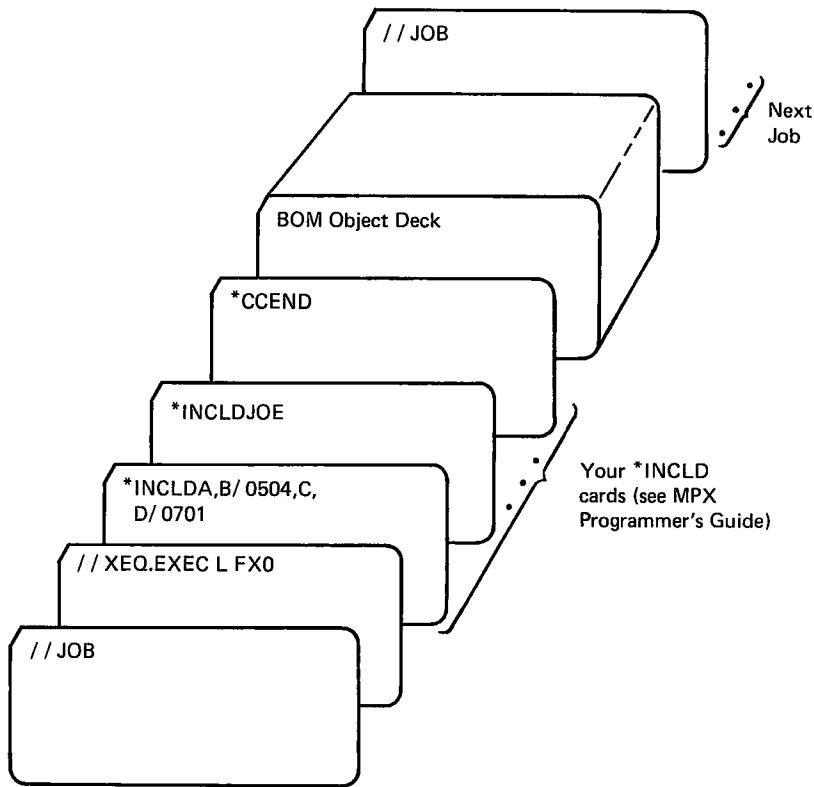

Figure 7. Building the Executive
2. Place the completed control statements and BOM object deck in the 1442 hopper in the order illustrated in Figure 7.